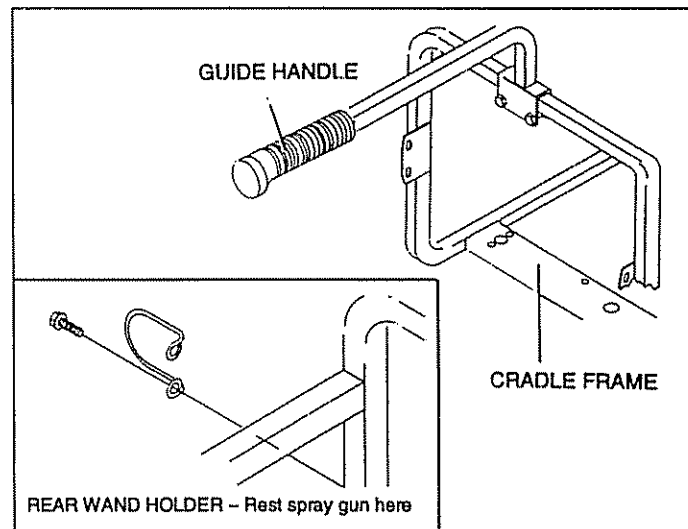

FIG. 3
- Attach guide handle to cradle (Fig. 3) with two M8-1.25 x 45mm hex head capscrews and two flange nuts. Attach rear wand holder using 5/16" (8mm) wrench with #10-16 self-drilling screws to cradle as shown in Fig. 3.